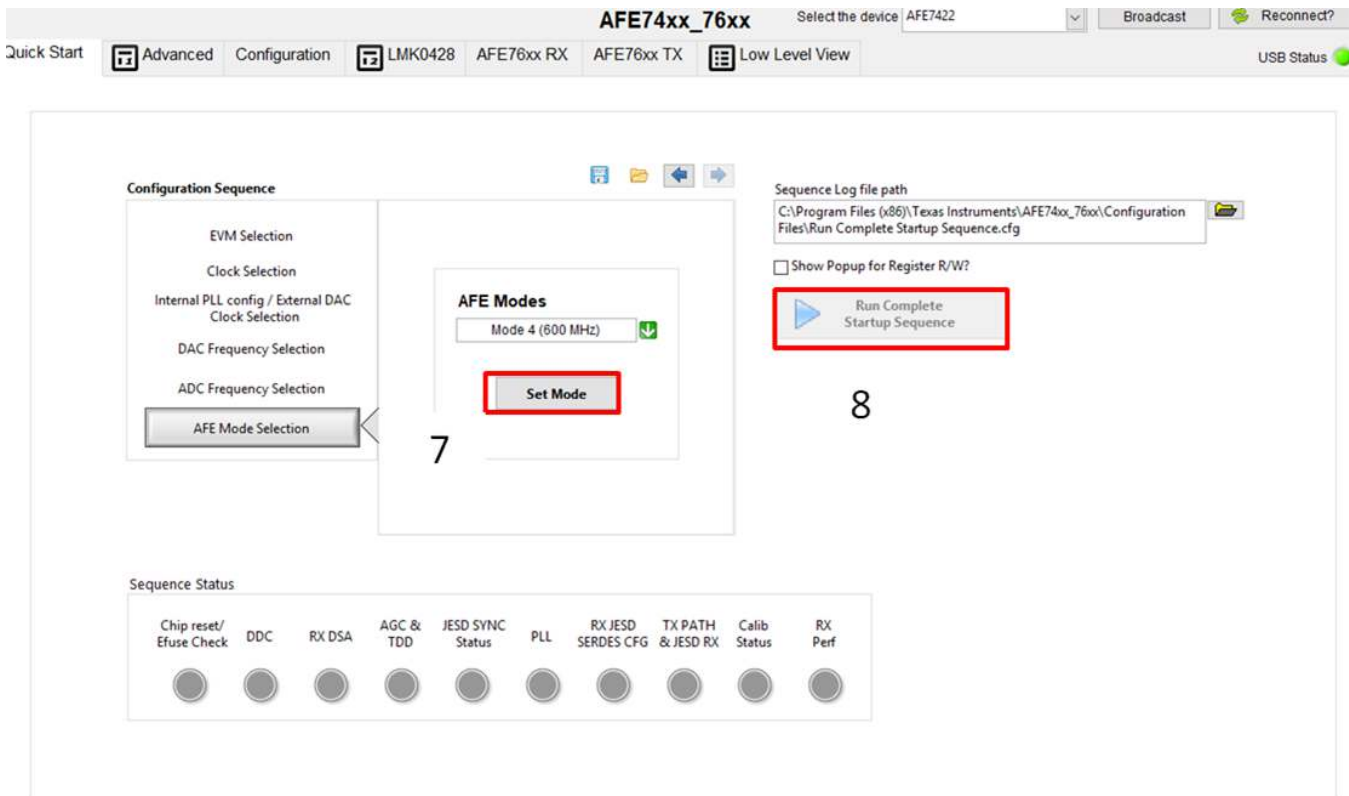

Figure 18. Set Mode and Run Complete Startup Sequence
7. After the GUI is finished programming, click *Set Mode*, labeled as 7 in Figure 18. *Set Mode* initializes the AFE74xxEVM and programs the LMK for the selected mode. Verify that the LMK on the EVM is locked by checking that LED D7 titled *LMK Lock* is illuminated.
9. Click *Run Complete Startup Sequence*, labeled as 8 in Figure 18. *Run Complete Startup Sequence* begins to program the AFE74xx EVM when pressed. Programming the AFE74xxEVM takes only a couple of seconds.